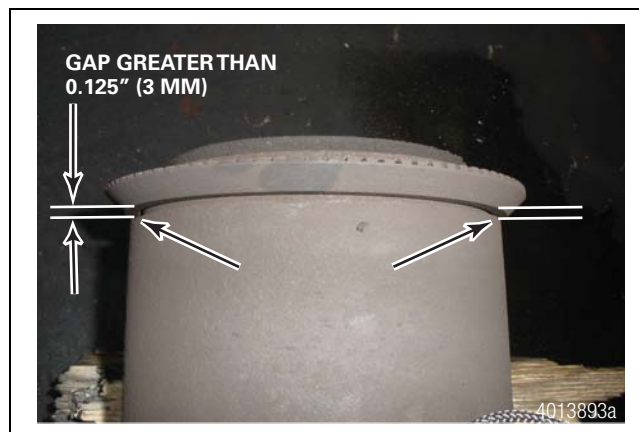

Figure 3.1
3. Inspect the ABS tone ring for a gap greater than 0.125" (3 mm) between the tone ring and the mounting seat shoulder of the hub. Figure 3.1.